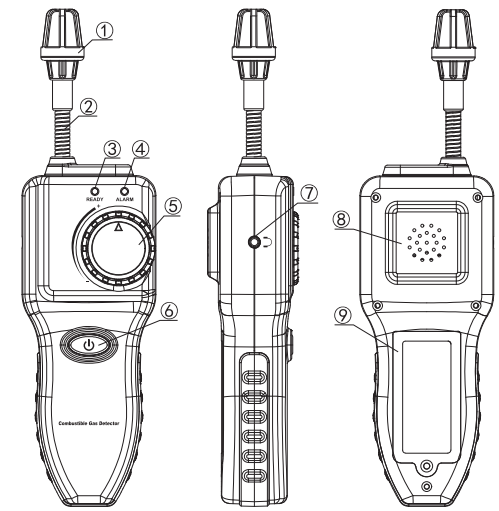

Figure 1
F. Name of parts (Figure 1)
- ① Probe cap and built-in sensor.
- ② Goose neck
- ③ Power indication (after startup)
- ④ Alarm indication
- ⑤ Beep sound rate adjustment
- ⑥ Open/shut down key.
- ⑦ Earphone socket
- ⑧ Countersink
- ⑨ Battery door